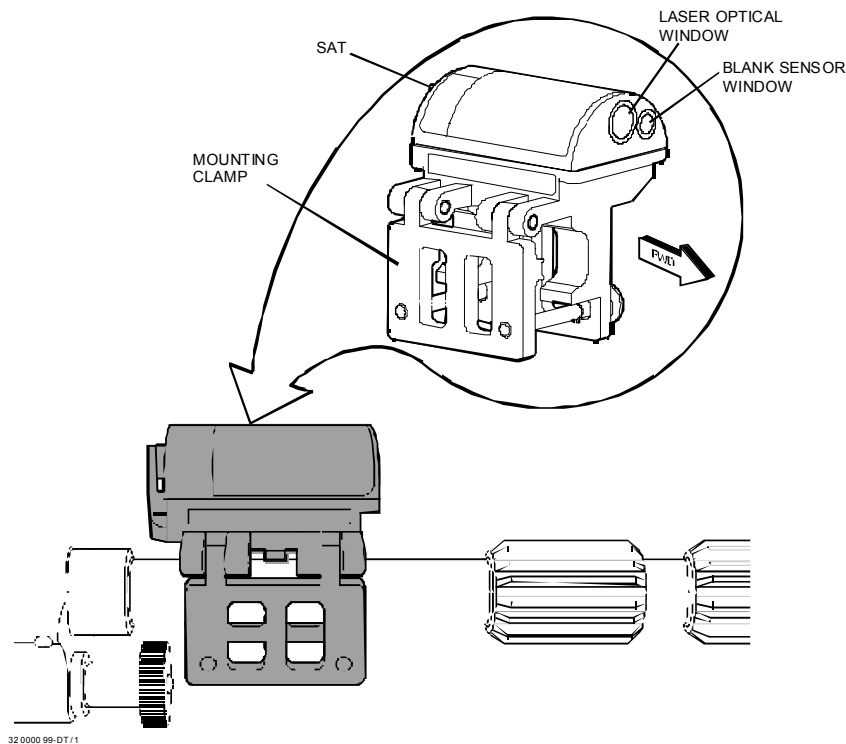

Figure 2-14. M240 SAT.
- a. Remove the SAT from the transit case. The SAT and clamp are (1) one unit. Make sure the SAT is clean and dry, and not cracked or broken.
- e. Attach the SAT to the barrel of the M240 and tighten the SAT socket head capscrews equally until finger tight. (See Figure 2-14.)